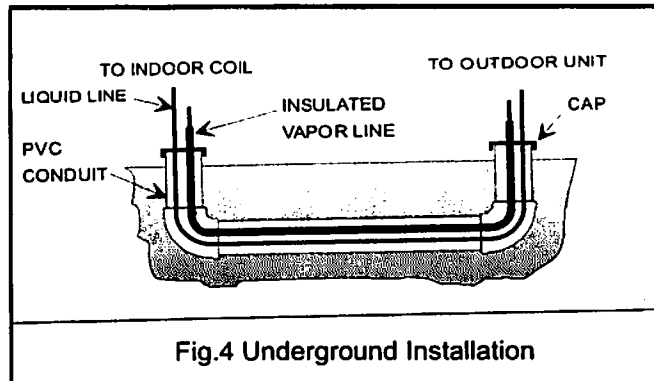

Fig.4 Underground Installation
5. Use PVC piping as a conduit for all underground installations as shown in Fig. 4. Buried lines should be kept as short as possible to minimize the build up of liquid refrigerant in the vapor line during long periods of shutdown.